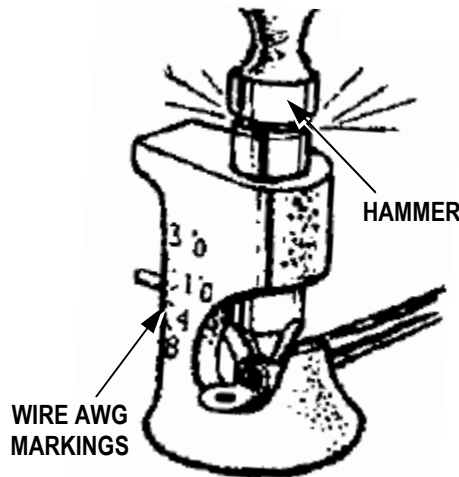

Figure 3
- Using a 2lb hammer strike the top of the ram until the lift lever is lined up with the correct AWG marking located on the side of the tool. See Figure 3.